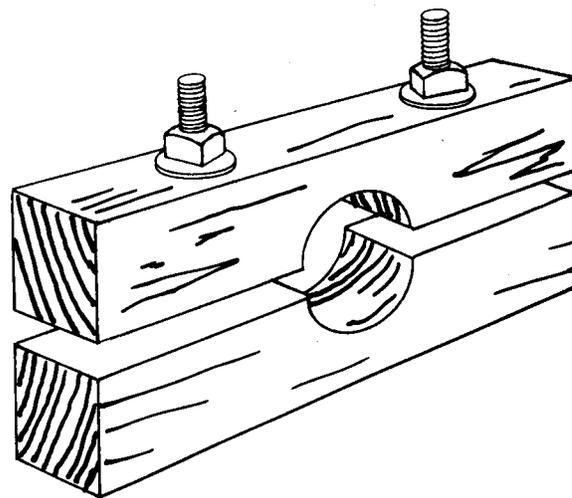

Figure 9-13. Pipe clamps
(9) Pipe Clamps (Figure 9-13). You can construct wooden pipe clamps for 6- and 8-inch drive pipe. You can use the clamps to hold the pipe at any position in the hole during drilling operations.